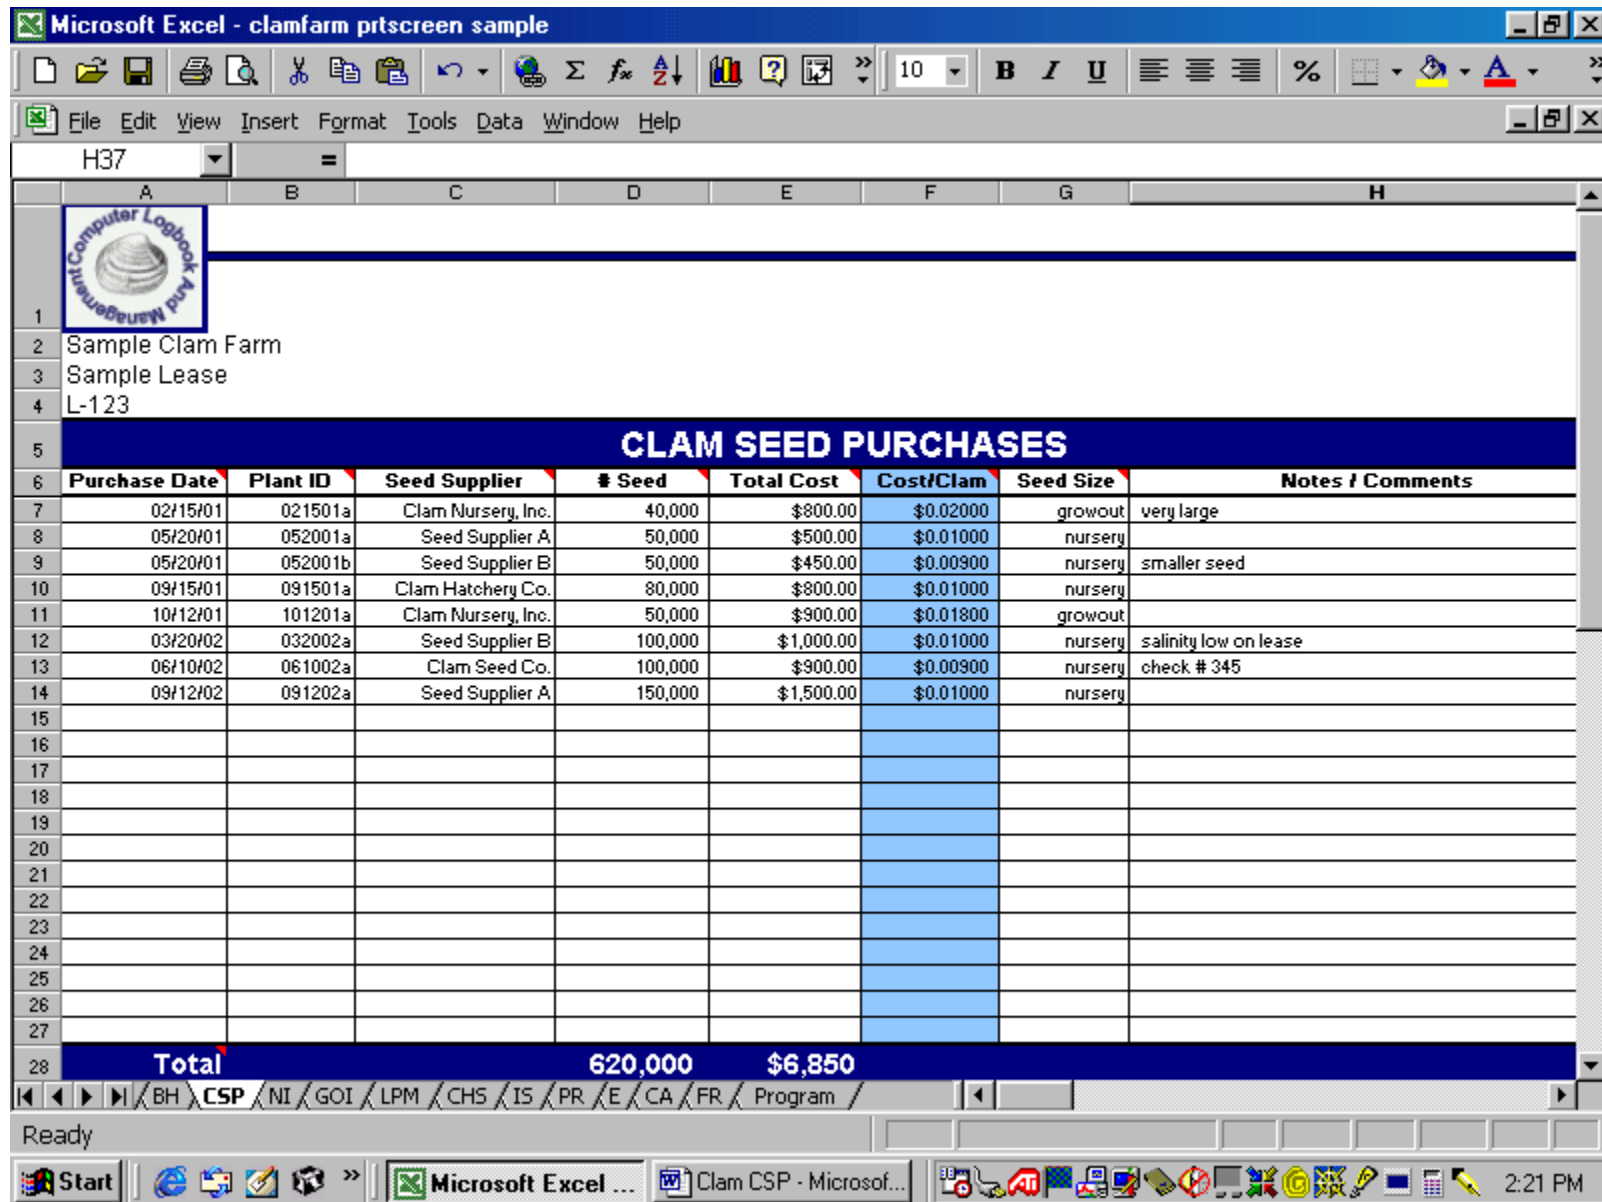

Figure 5.
**This module provides information needed by the user to record seed purchases. (see Figure 5)**